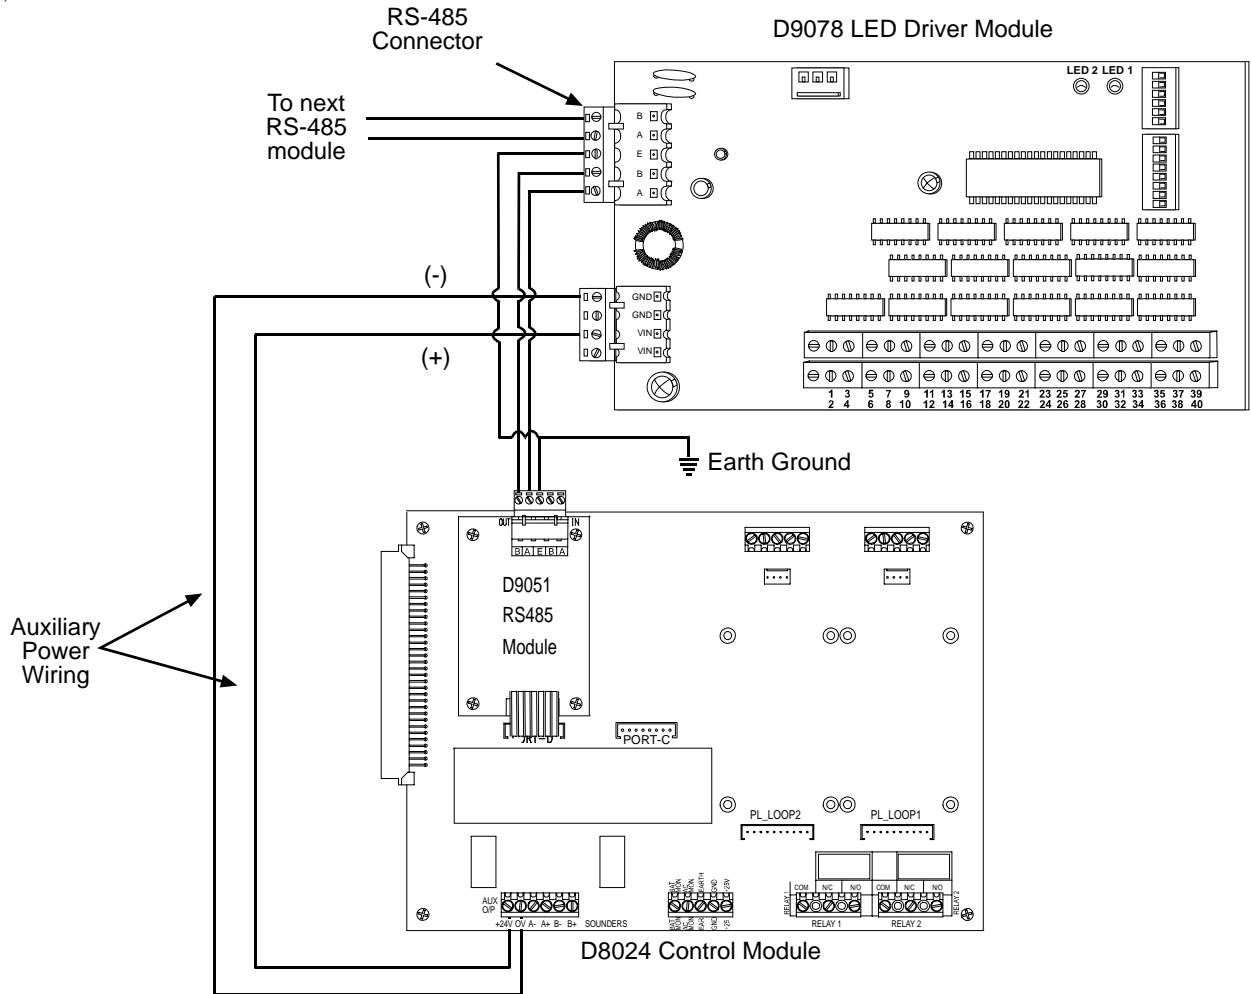

Figure 9: Connecting the D9078 to the Analog FACPs
For more information, see Figure 9.
The D9078 LED Driver Module can be connected to the D8024 and D10024 Fire Alarm Control Panels (FACP) in order to provide graphic annunciation or to turn on remote relays. See Figure 9 for wiring details.
**Note:** Although Figure 9 shows the D8024 Control Module, the same connections are made when wiring the D9078 LED Driver Module to the D10024 FACP.